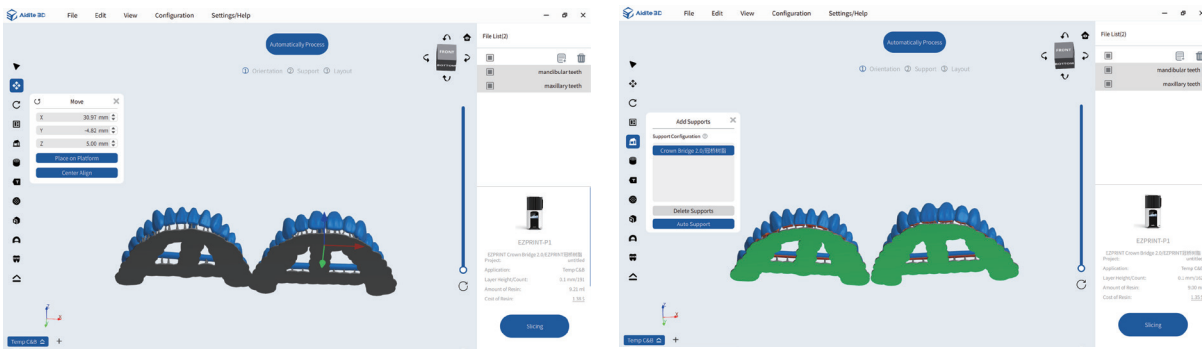

Figure 10
① the bottom of the display gray for the bottom is not posted, you need to click on the left side of the “placed at the bottom of the button” Figure 10.